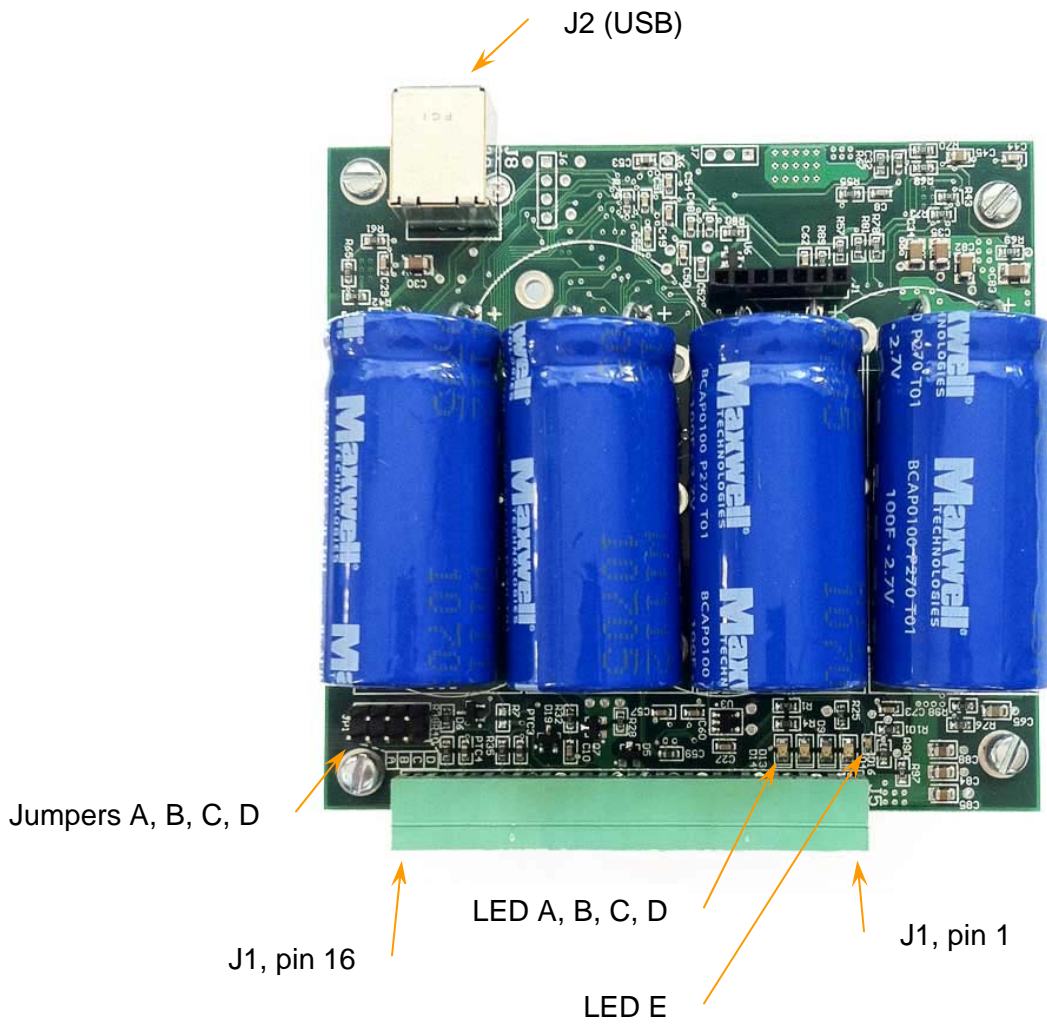

Figure 6 – Device connectors, jumper locations and LED locations
- Plastic jumper on jumper D position (see figure 6 in Connectors paragraph). STUPS will start when input power is connected and will run until the input power goes off and batteries are completely depleted.
Input can be used to turn on STUPS. If a plastic jumper must be installed on jumper C position (see figure 6) then the active input will turn on STUPS.